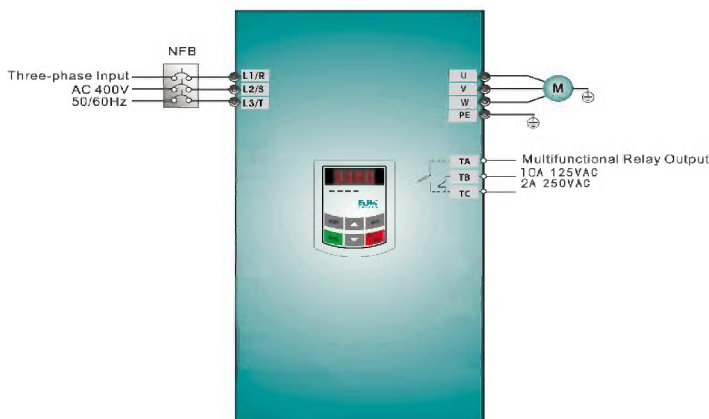

Figure 4-1 Wiring Diagram 1
- (1) Connect the wires in accordance with Figure 4-1. After having checked the wiring successfully, switch on the air switch, and power on the inverter.
- (2) Press the "Fun" key, to enter the programming menu.
- (3) When F137=3, measure the parameters of motor stator resistance parameter. When F137≠3, go to step 4.
- (1) Connect the wires in accordance with Figure 4-1. After having checked the wiring successfully, switch on the air switch, and power on the inverter;
- (2) Press the “Fun” key, to enter the programming menu.
- (3) Study the parameters of the motor: the operation process is the same as that of example 1.
- (4) Set functional parameters of the inverter: